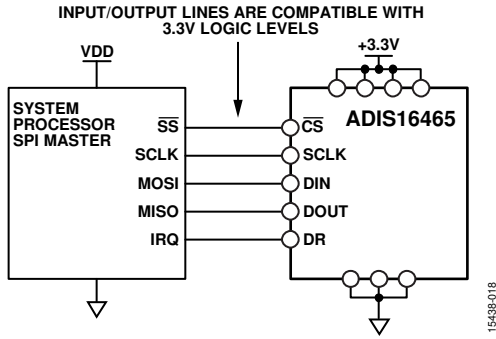

Figure 18. Electrical Connection Diagram
The SPI provides access to the user registers (see Table 8). Figure 18 shows the most common connections between the ADIS16465 and a SPI master device, which is often an embedded processor that has an SPI-compatible interface. In this example, the SPI master uses an interrupt service routine to collect data every time the data ready (DR) signal pulses.